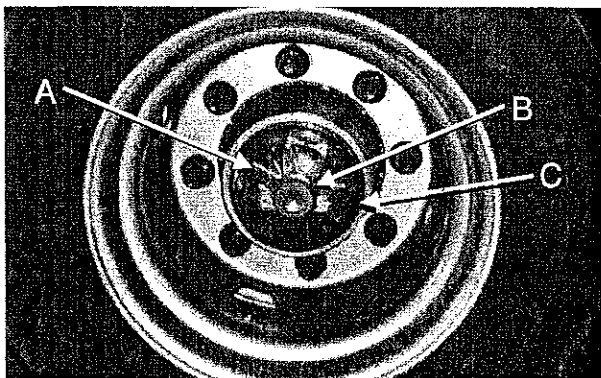

Figure 27. Wheel Hub.
**Spindle And Hub** - The spindle and hub are lubricated through the access plug in the center of the hub cap (see Figure 27). Check this oil level often and fill as necessary.